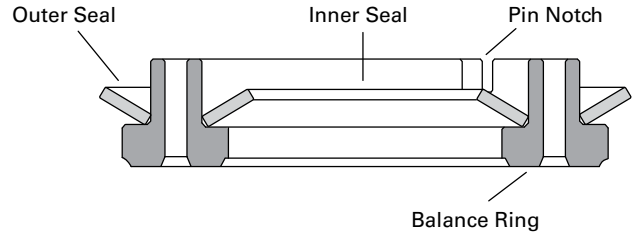

Figure 15.
37. Apply petroleum jelly to inner and outer face seals. Install seals on balance ring as shown in Figure 15.
**Important:** Install face seals in the positions shown in Figure 15, or the motor will not operate properly. Do not force or bend the face seals. Any damage to these seals will affect the operation of the motor.